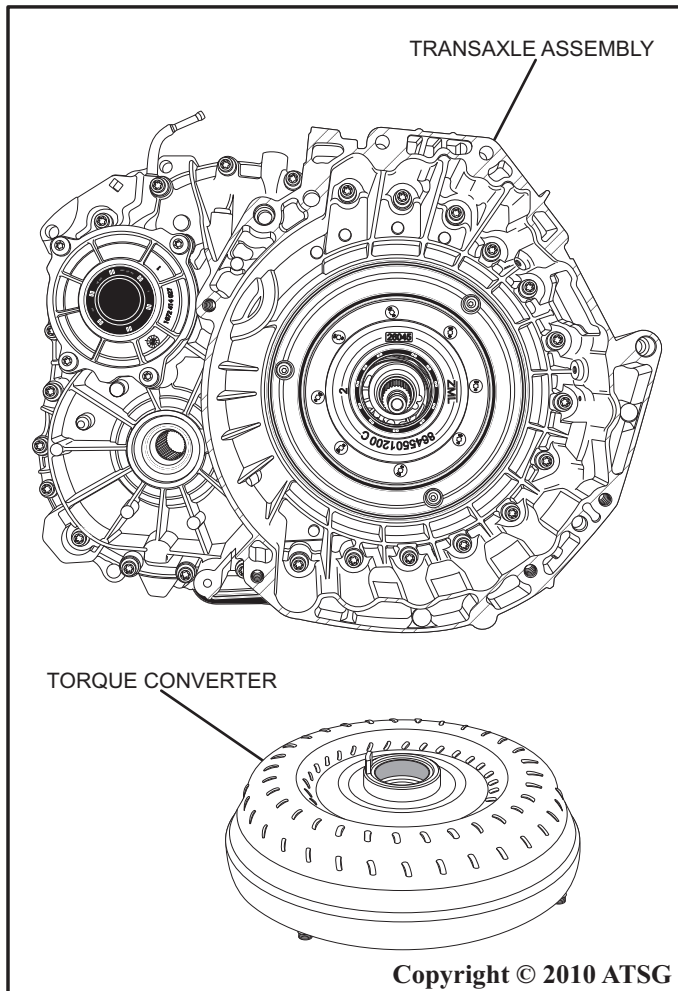

Figure 1
2. Remove the torque converter from transaxle as shown in figure 1.